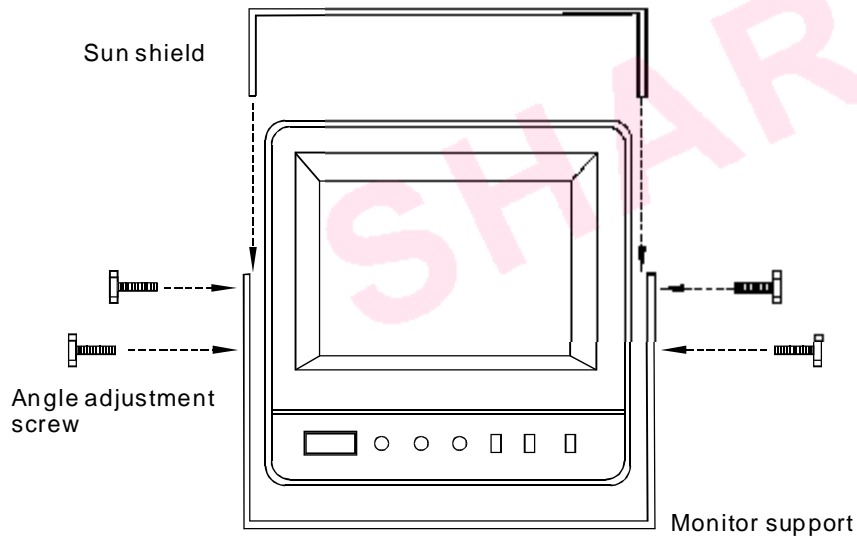

Fig.2 Fixing the monitor
4. See Fig.2, fix the monitor to the support with 4 angle adjustment screws